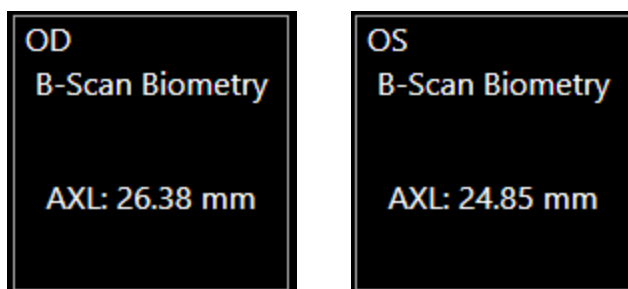

Figure 19: B-Scan Biometry Tab
- ⑥ Once the A-Scan is positioned correctly on the B-Scan image, select the [B-Scan Biometry] tab from the video collector on top to switch to the A-Scan mode as shown in Figure 19.